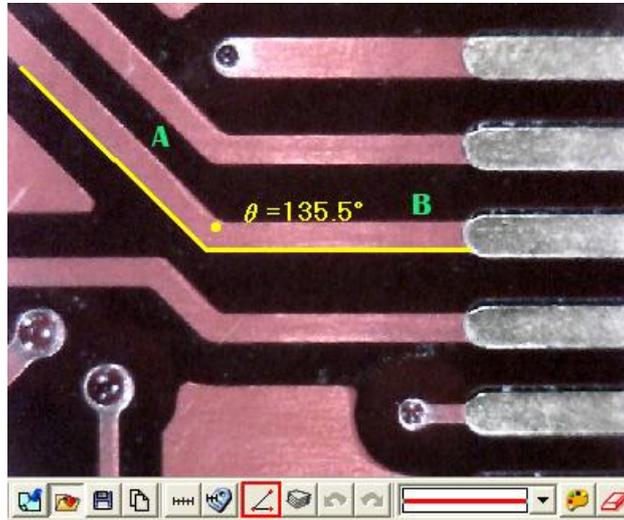

Fig.5-73 3 Points Angle
- (7) 3 Points Angle: Measure the angle on the object and use . It can see an angle on the object, draw a line and stop at the corner of angle, and then draw the other line from the angle; the angle can be automatically calculated. See Fig.5-73, a dot shows the measured angle, it is 135.5° .